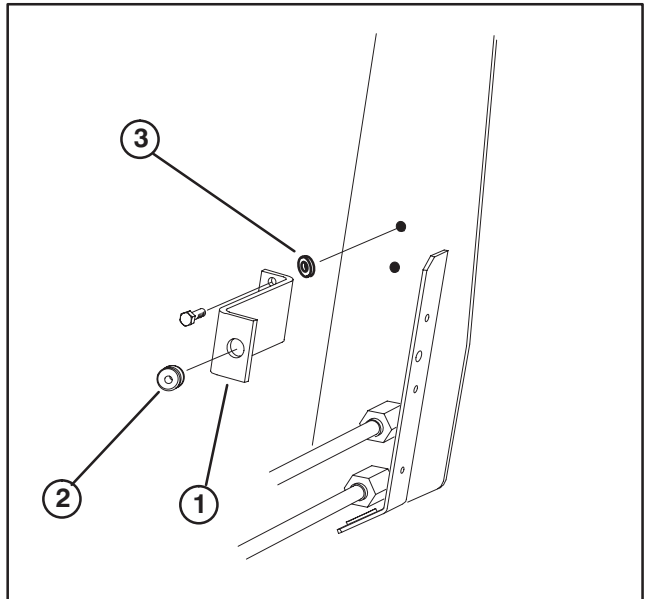

Figure 8
10. Mount support bracket to radiator mount with (2) 5/16–18 x 7/8" lg. capscrews, 3/16" thk. washers and locknuts. Insert a rubber grommet into hole of bracket (Fig. 8).